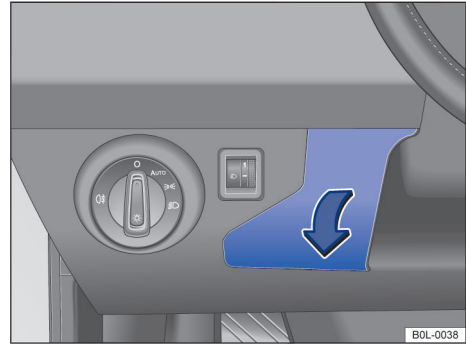

Fig. 124 In the dash panel on the driver side: fuse box cover
- Grab the cover → **Fig. 124** and pull out in the direction of the arrow. **◀**